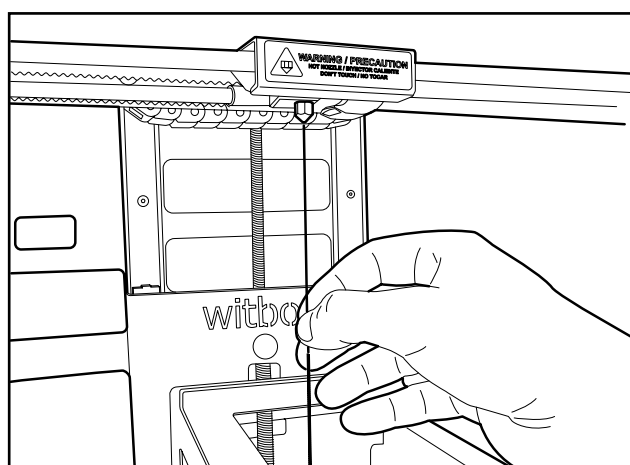

Figure 6.3 Insert a needle into the nozzle
- ⑥ Insert one of the needles (supplied with the printer) into the nozzle and drag out any leftover filament that may be there (fig. 6.3).